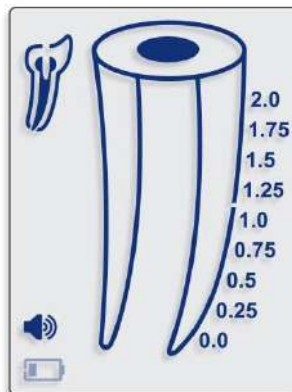

Fig. 2
- 5.2.2. When the battery level is low, the flashing Low Battery indicator will appear on the screen (Fig.2). DemPex™ will continue normal operation even with a low battery, but the battery should be replaced before it loses all power.